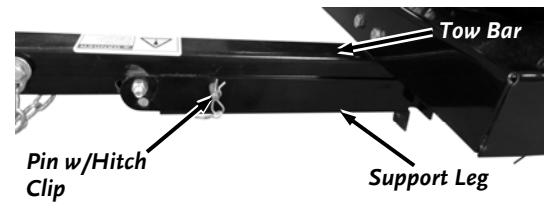

Figure 18
1. Pull the Hitch Clip from the Pin and pull the Pin from the Support Leg and Tow Bar (Figure 18).